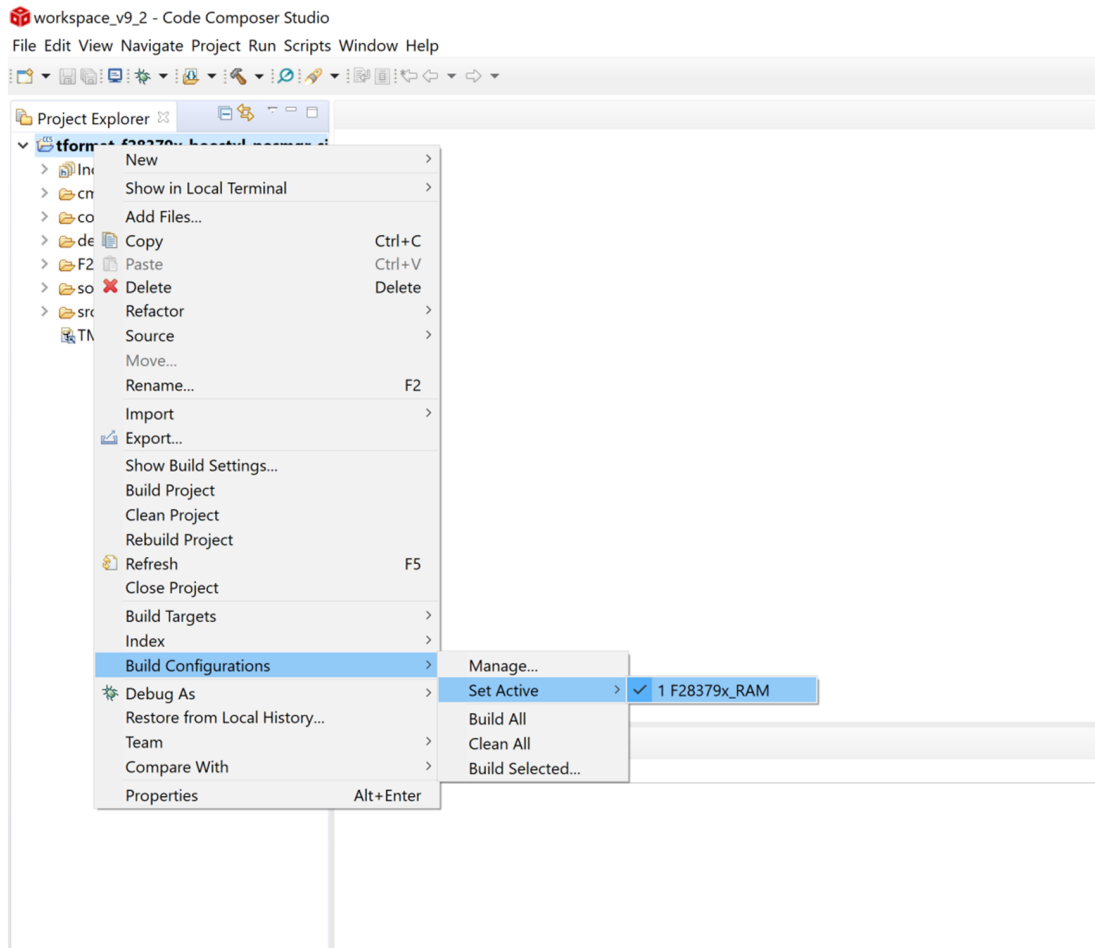

Figure 3-4. Selecting F28379x_ RAM Configuration
12. The project can be configured to create code and run in either Flash or RAM. Either of the two can be selected, however, RAM configuration is used most of the time for lab experiments and Flash configuration for production. As shown in Figure 3-4, right-click on an individual project and select Active Build Configuration → CPU1_RAM configuration.